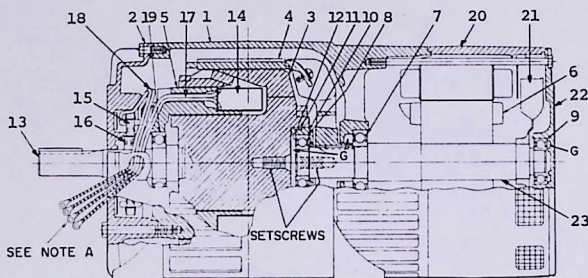

Fig. 1. Coupling with dripproof motor
Figure 1 shows a typical eddy current coupling drive unit with an integral induction motor. The drum, driven by the motor, turns at a constant speed; while the pole structure, attached to the output shaft, turns at a slower speed determined by the field strength of the magnetic poles. The speed of the output shaft is thus controlled by the current supplied to the field winding.
The integral tachometer shown in Fig. 1 as (15) and (16) generates an a-c voltage signal which is proportional to speed. This a-c voltage is available for speed indication purposes and for a regulator feedback signal.
ing too much grease in the blind cavity next to the pilot bearing (8) (see Fig. 1).
Inspect the pilot-bearing cartridge (10) Fig. 1, for nicks and scratches. The rubber "O" ring (11) should be replaced if it is cut or damaged in any way. This assembly prevents the lubricant from leaking out of the pilot bearing (8).
A. To completely disassemble the coupling, refer to Fig. 1 and proceed as follows:
1. Remove the coupling end shield (2) with the tachometer-stator assembly (15) and field assembly (5) attached by removing the four 5/16-in. outer bolts holding the end shield to the frame (1). The drive bearing (19) is now exposed. Note, the field assembly should not be removed from the end shield unless it is necessary to replace it. If it is necessary to replace the field assembly or tachometer-stator assembly, care should be exercised in threading the leads (17, 18) through the end-shield opening.
2. Withdraw the drive shaft (13) with the core and pole assembly (3) attached. It is recommended that an eyebolt be screwed into the end of the shaft and then lifted with a crane. The pilot bearing (8) is now exposed in its cartridge (10).
3. Remove the pilot bearing (8) by pulling on its cartridge (10). When the cartridge is removed, force is necessarily applied to the outer race of the pilot bearing by the cartridge. The bearing should be replaced as it may have been damaged.
| 7 Motor inboard ball bearing, Fig. 1 and 2, | 18 Leads, a-c tachometer |
| 9 Motor outboard ball bearing, Fig. 1 and 2 | 21 Fan, motor |
the shaft. The open side of the cartridge must be toward the drive end, as shown in Fig. 1
The "O" ring (part number 11 in Figs. 1) should be replaced if it is cut or damaged in any way. The "O" ring keeps the lubricant from leaking out of the grease cavities.
1. DRIPPROOF MOTOR (Fig. 1):